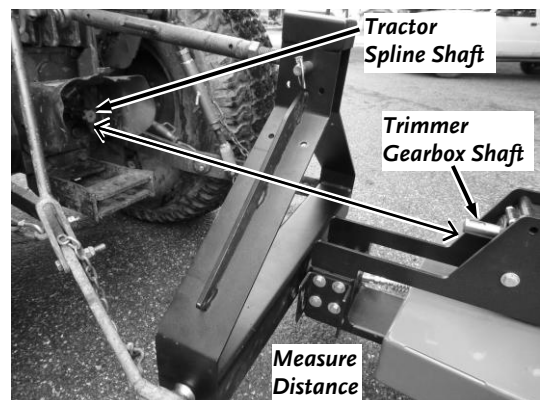

Figure 9
- Lower the Trimmer all the way to the ground in the operating position (**Figure 9**). Measure from the end of the Tractor Spline Shaft to the end of the Trimmer Gearbox Shaft and record this dimension in the “ON GROUND” row of the table above.